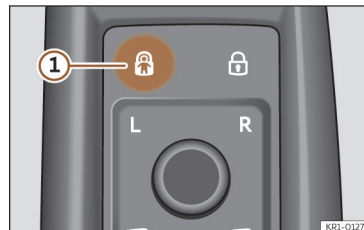

Fig. 76 On the driver's door: touch panel for the electric child lock.
- **Activation:** tap the touch panel >>> **Fig. 76**
- ①
The indicator lamp  on the touch control lights up yellow when the electric child lock is activated >>> Fig. 76①.